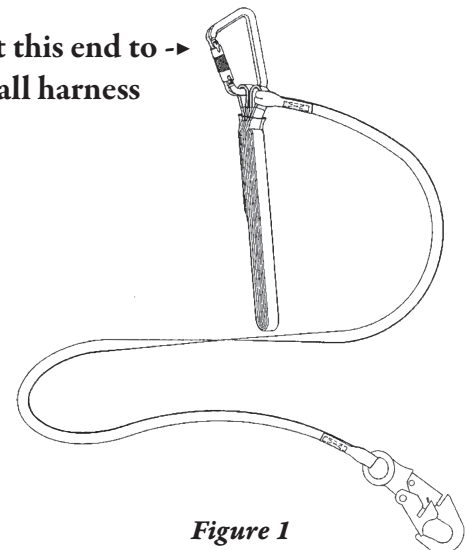
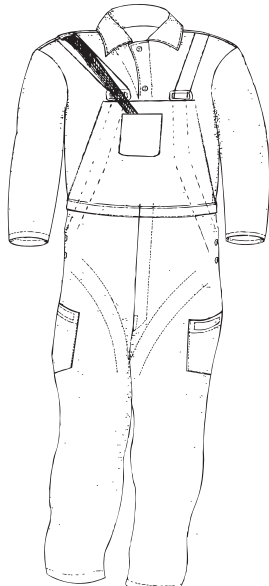
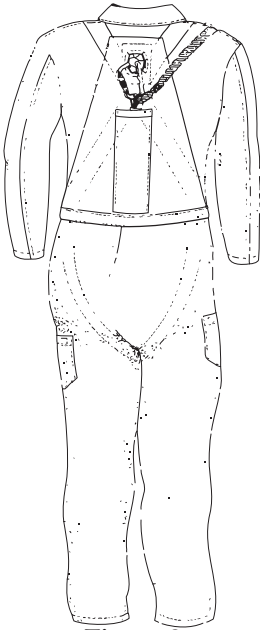

Figure 1
Figure 2
Figure 3
2. The Model # SPCL shock absorber lanyard (Figure 1) must only be used in conjunction with the overall, coverall or vest harness. The shock absorber is designed to fit in the elongated pocket at the center of the lower back (Figure 3). The carabiner at the end of the shock absorber is connected to the D-ring (attachment point) positioned between the shoulder blades at the center of the back (Figure 3). **The shock absorber lanyard must be connected before putting on the overall.** The snaphook at the opposite end of the shock absorber can be stored in the front chest pocket when not in use (Figure 2). The overall has a retaining strap on the right shoulder (it can be moved to the left shoulder) to retain the 1" wide web portion of the lanyard (Figure 2).